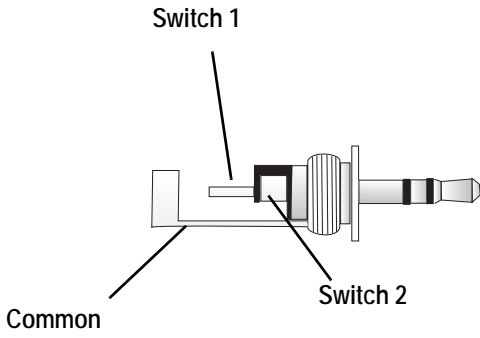

Figure 5-2: Internal Appearance of Headphone Jack
2. Refer to Figure 5-2 and for each switch, solder one wire to the ground terminal and one wire to the required switch terminal.